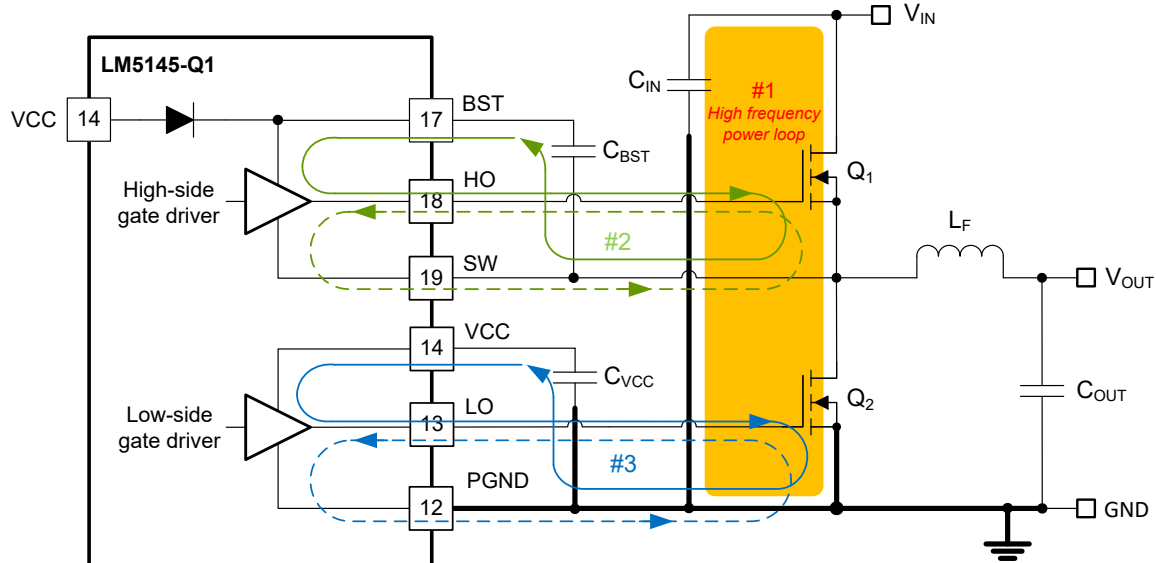

Figure 11-1. DC-DC Regulator Ground System With Power Stage and Gate Drive Circuit Switching Loops
Proper PCB design and layout is important in a high-current, fast-switching circuits (with high current and voltage slew rates) to assure appropriate device operation and design robustness. As expected, certain issues must be considered before designing a PCB layout using the LM5145-Q1. The high-frequency power loop of the buck converter power stage is denoted by #1 in the shaded area of Figure 11-1. The topological architecture of a buck converter means that particularly high di/dt current flows in the components of loop 1, and it becomes mandatory to reduce the parasitic inductance of this loop by minimizing its effective loop area. Also important is the gate drive loops of the low-side and high-side MOSFETs, denoted by 2 and 3, respectively, in Figure 11-1.
- Loop #1: The most important loop to minimize the area of is the path from the input capacitor or capacitors through the high- and low-side MOSFETs, and back to the capacitor or capacitors through the ground connection. Connect the input capacitor or capacitors negative terminal close to the source of the low-side MOSFET (at ground). Similarly, connect the input capacitor or capacitors positive terminal close to the drain of the high-side MOSFET (at VIN). Refer to loop #1 of Figure 11-1.
5. The SW pin connects to the switch node of the power conversion stage and acts as the return path for the high-side gate driver. The parasitic inductance inherent to loop #1 in Figure 11-1 and the output capacitance (C_{OSS}) of both power MOSFETs form a resonant circuit that induces high frequency (> 100 MHz) ringing on the SW node. The voltage peak of this ringing, if not controlled, can be significantly higher than the input voltage. Ensure that the peak ringing amplitude does not exceed the absolute maximum rating limit for the SW pin. In many cases, a series resistor and capacitor snubber network connected from the SW node to GND damps the ringing and decreases the peak amplitude. Provide provisions for snubber network components in the PCB layout. If testing reveals that the ringing amplitude at the SW pin is excessive, then include snubber components as needed.
- Loop 2: high-side MOSFET, Q_1 . During the high-side MOSFET turnon, high current flows from the bootstrap (boot) capacitor through the gate driver and high-side MOSFET, and back to the negative terminal of the boot capacitor through the SW connection. Conversely, to turn off the high-side MOSFET, high current flows from the gate of the high-side MOSFET through the gate driver and SW, and back to the source of the high-side MOSFET through the SW trace. Refer to loop #2 of Figure 11-1.
- Loop 3: low-side MOSFET, Q_2 . During the low-side MOSFET turn-on, high current flows from the VCC decoupling capacitor through the gate driver and low-side MOSFET, and back to the negative terminal of the capacitor through ground. Conversely, to turn off the low-side MOSFET, high current flows from the gate of the low-side MOSFET through the gate driver and GND, and back to the source of the low-side MOSFET through ground. Refer to loop #3 of Figure 11-1.